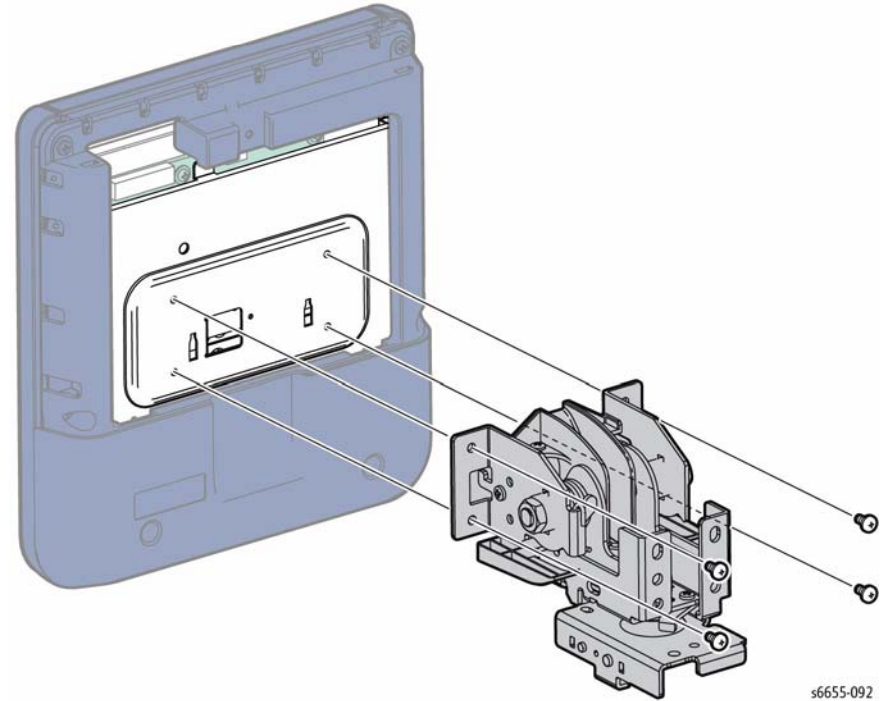

Figure 2 Remove the Control Panel from the UI Hinge Assembly
5. Refer to Figure 2 to locate and remove four screws (silver, 6 mm) that secure the Control Panel to the UI Hinge Assembly.